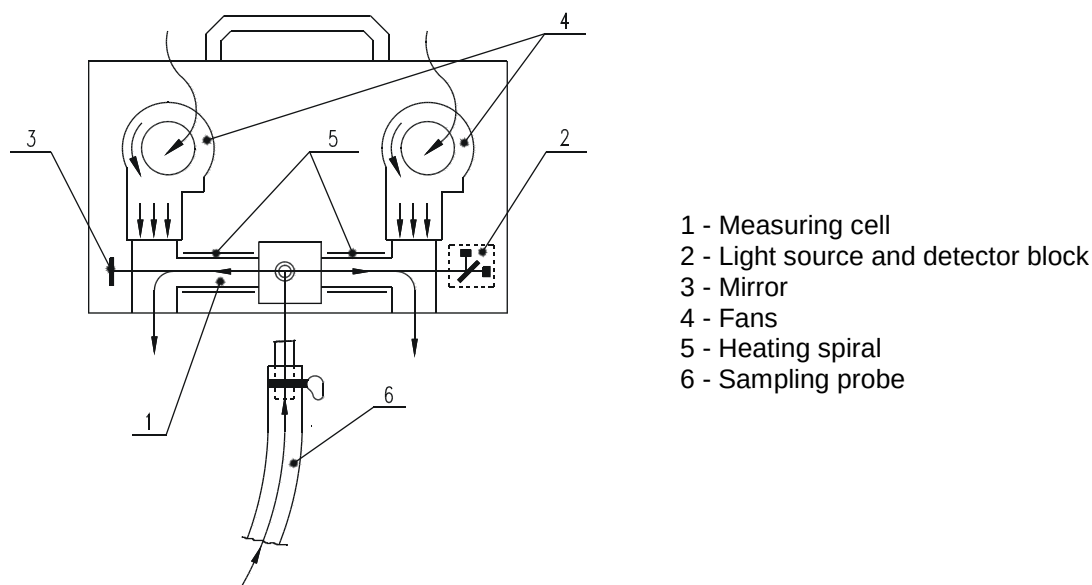

Fig. 6 – Pneumatic part of the sampling unit
Pneumatic part the Opacimeter is placed in the sampling unit and is represented on the Fig. 6. Basis of the sampling unit is measuring cell (1), light source and detector block (2), with support of which the opacity measuring itself is processed. Mirror (3) serves for the reflection of the light, which is sent from the light source. Fans (4) direct the direction of smoke, so that no contamination of optic system occurs. Heating coil (spiral) (5) serves for the measuring cell warming up.
Principle of opacimeter measuring consists in measuring of amount of light passing through a sample of an exhaust gas. Absence of smoke in the measuring cell means zero opacity (optical density). Complete shading of the measuring cell (non-transparent gas) means 100 % opacity. As shown on Fig. 6, exhaust gas is led by sampling probe (6) to the measuring cell (1) with 364 mm effective length. Smoke column in the cell is measured by means of an optical system, where a green LED is used as a light source, which emits visible light of 560 nm. GaAs photodiode is used as a detector, which is heated to 45°C. For stability and accuracy purposes, the measuring cell is also heated to 75 °C.